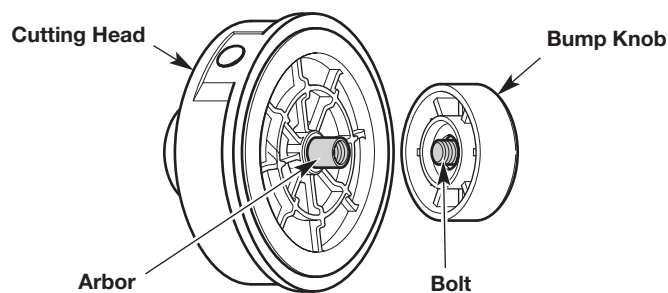

Fig. 14
1. Hold the cutting head in place (Fig. 14). Turn the bump knob counterclockwise to unscrew it from the cutting head (Fig. 14).
2. Inspect the bolt inside the bump knob to make sure it moves freely (Fig. 14). Replace the bump knob if it is damaged.
5. While holding the inner reel and outer spool together, screw the bump knob on counterclockwise (Fig. 14). Tighten the bump knob securely.